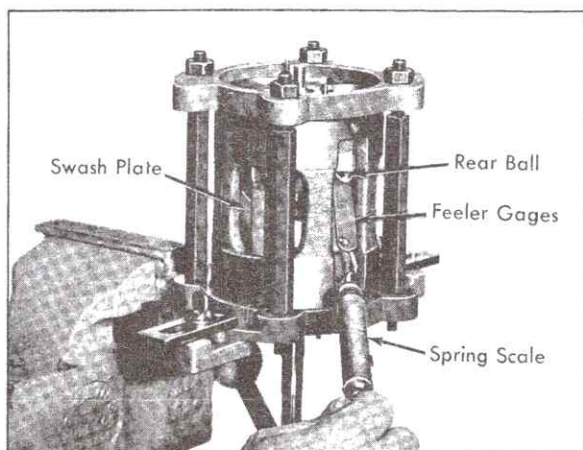

Fig. 1-58 Gaging Rear Piston Ball
c. Pull on spring scale to slide feeler gage stock out from between ball and swash plate, and note reading on spring scale as feeler gage is removed, Fig. 1-58. Reading should be between 4 and 8 ounces.